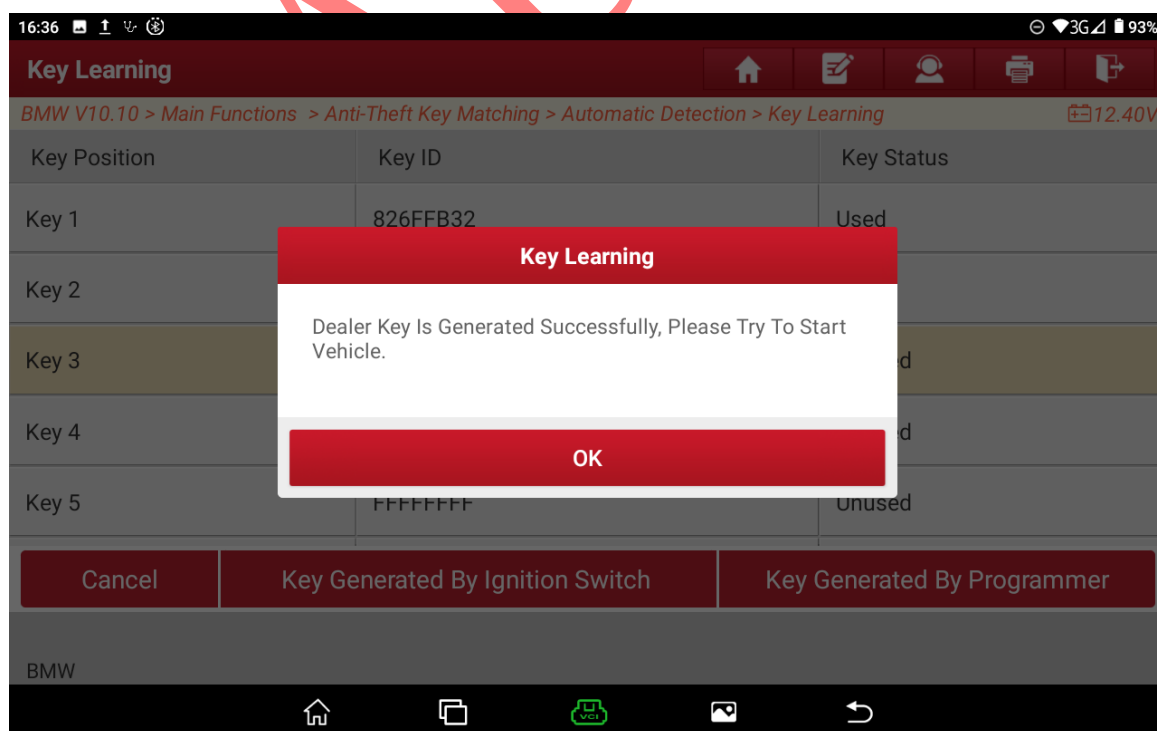

Figure 40
40. A dealer key is successfully generated. Place the key close to the vehicle sensing point and start the vehicle to test whether the remote control is normal, as shown in Figure 40.